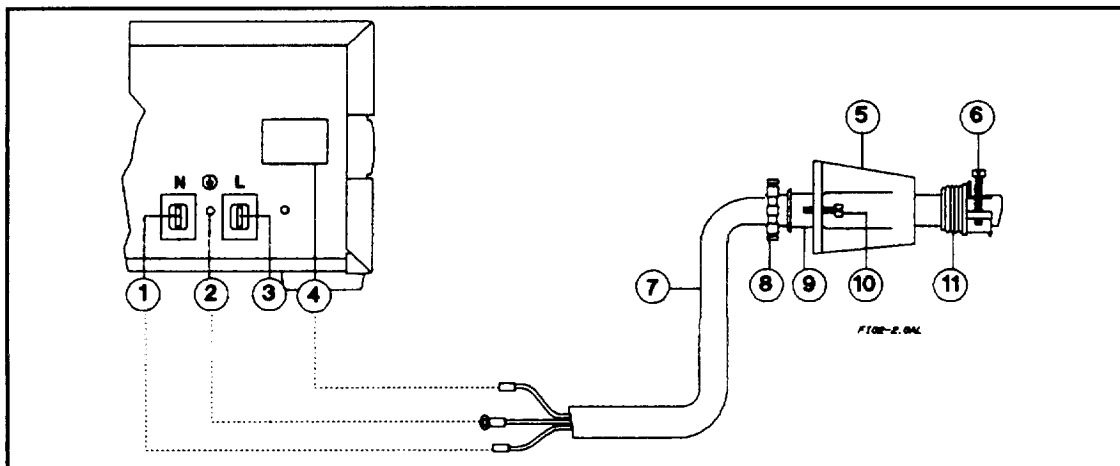

Figure 2-2. Connecting the Series 667xA Power Cord
You can operate your supply from a nominal 200 V or 230 V, single-phase power source, or from the line-to-line voltage of a 208-volt, 3-phase source. The proper source is indicated on the rear **Rating** label (④, Figure 2-2). See "AC Input Ratings" in Table 1-3a for the voltage and frequency range for each type of power source.
See Figure 2-2 and proceed as follows: